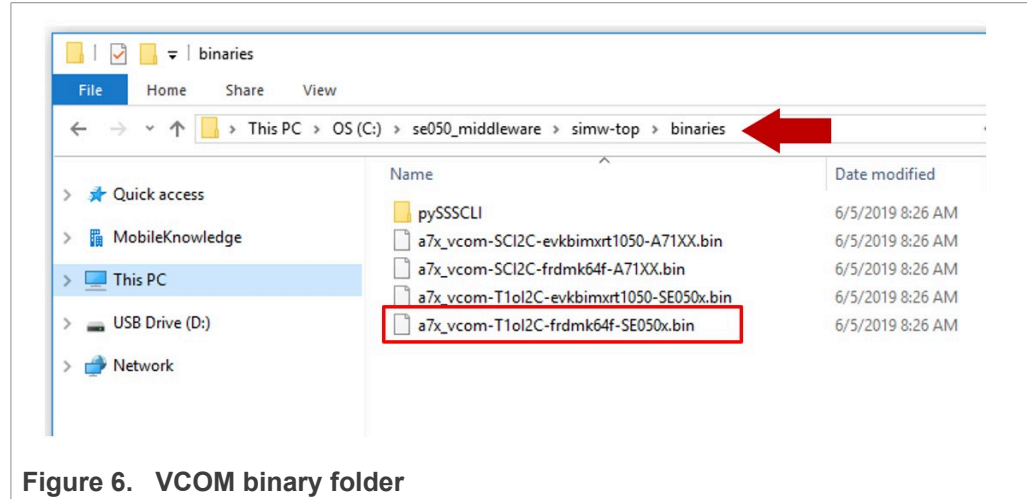

Figure 6. VCOM binary folder
3. Flash the VCOM software to FRDM-K64F. The VCOM software binary can be found in the EdgeLock SE05x Plug & Trust Middleware package, inside the `simw-top\binaries` folder as shown in Figure 6: